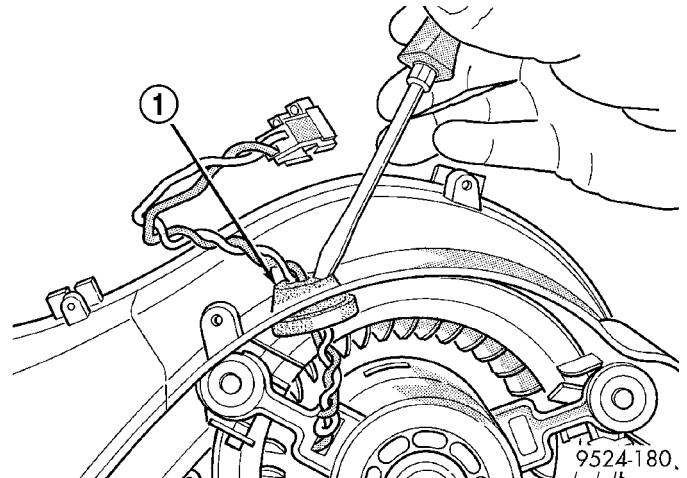

Fig. 15 Blower Motor Wire Lead Grommet
(3) Remove the recirculation door actuator wire lead from the routing clip located on the lower air inlet housing and position the wire lead aside.
(4) Disconnect the blower motor wire lead connector from the blower motor resistor or power module, depending on application.
(5) Remove the one screw (from the top) that secures the lower air inlet housing to the upper air inlet housing.
(6) Remove the four screws (from the bottom) that secure the lower air inlet housing to the upper air inlet housing and remove the lower HVAC housing.
(7) Push the rubber blower motor wire lead grommet through the opening in the lower air inlet housing (Fig. 15).
(8) Feed the blower motor wire lead through the opening in the lower air inlet housing and remove the lower air inlet housing from the vehicle.